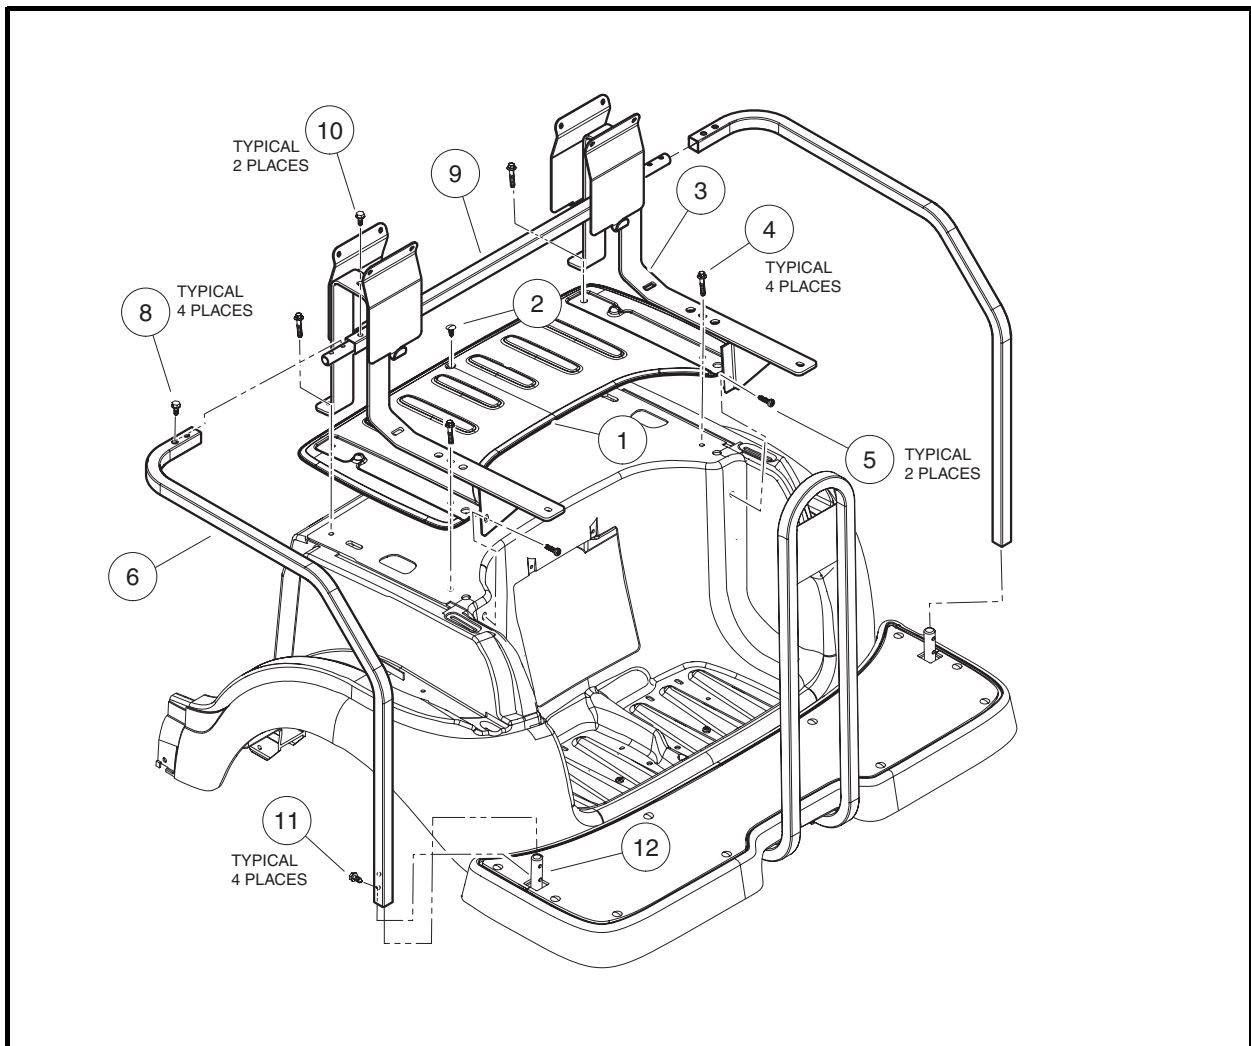

Figure 4-9 Seat Supports (Four-Passenger Vehicles)
1. Remove screws (8 and 11) securing the rear hip restraints (6) and remove the hip restraints from the vehicle (**Figure 4-9, Page 4-13**).
2. Remove the screws (5) and bolts (4) from the seat support (3) and remove the seat support from the vehicle.
2. Tighten bolts (4) to 53 in-lb (6 N·m). Tighten screws (5) to 44 in-lb (5 N·m). Tighten bolts (8 and 11) to 124 in-lb (14 N·m) (**Figure 4-9, Page 4-13**).